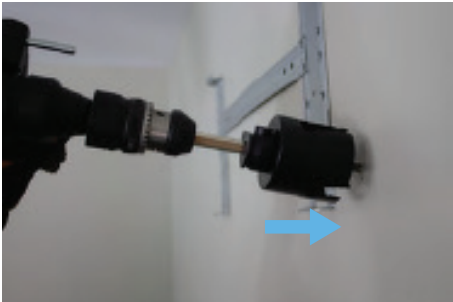

Figure 3.1
- 1. Using a 2.5 in. (63.5mm) core drill, drill a hole in the wall (Figure 3.1). Make sure that the hole is drilled at a slight downward angle so that the outdoor end of the hole is lower than the indoor end by about 1/2 in. (5 – 7mm) to ensure proper drainage for water condensation.